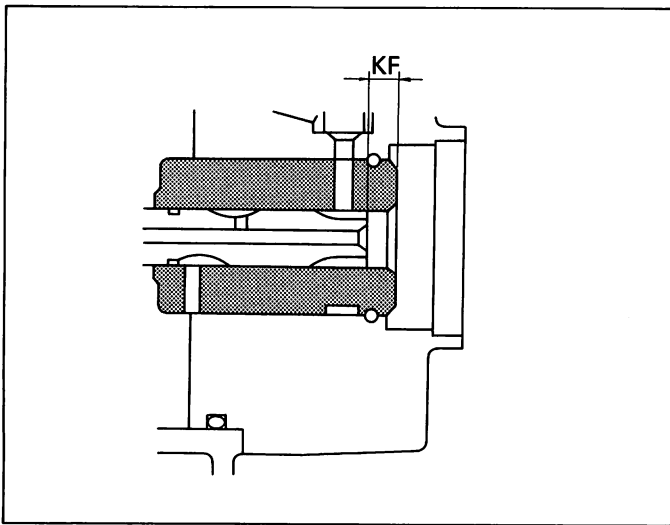

Fig. 58 "KF" dimension
1. The "KF" dimension is the distance between the end face of the distributor barrel and the end face of the plunger. (Fig. 58)